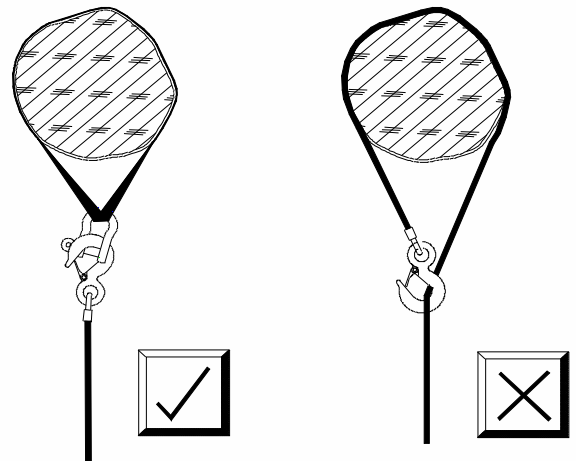

Fig. 8
- 1.7 **NEVER HOOK THE ROPE BACK ONTO ITSELF.** Hooking the rope back onto itself creates an unacceptable strain, breaking individual strands which in turn weakens the entire wire rope. Use the sling as shown in Fig. 8.